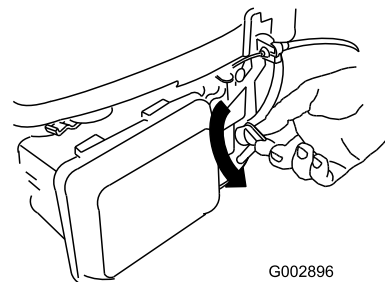

Figure 10
1. Turn the fuel-valve lever to the On position (Figure 10).